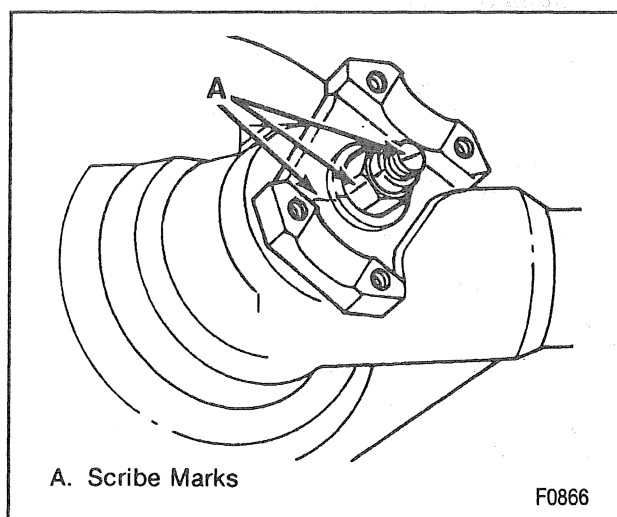

Figure 26—Scribed Marks
- Scribe a line on the pinion stem, pinion nut and the companion flange and record the number of exposed threads on the pinion stem (figure 26).